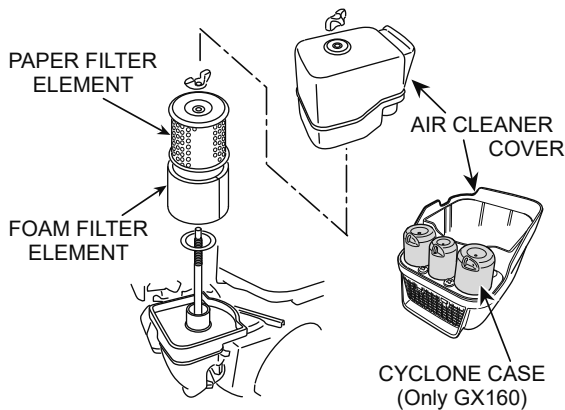

Fig. 20
- If the element cannot be cleaned, replace it with a new one. (Fig. 20)